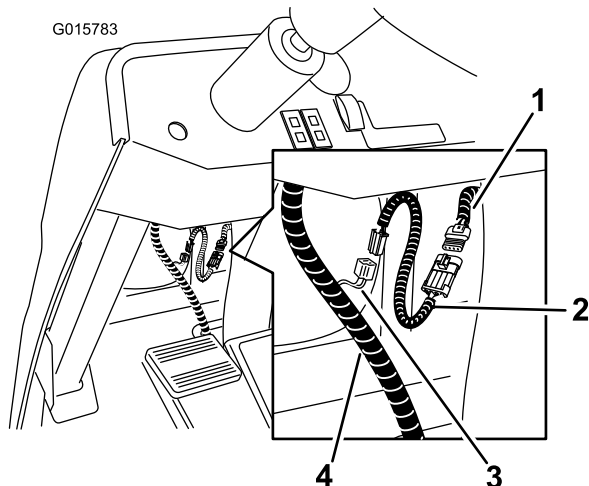

Figure 18
- B. Install the adapter to the main wiring harness by connecting the mating 4 pin connectors. (Figure 18).
- C. Connect the adaptor wire harness to the CE harness (Figure 18).